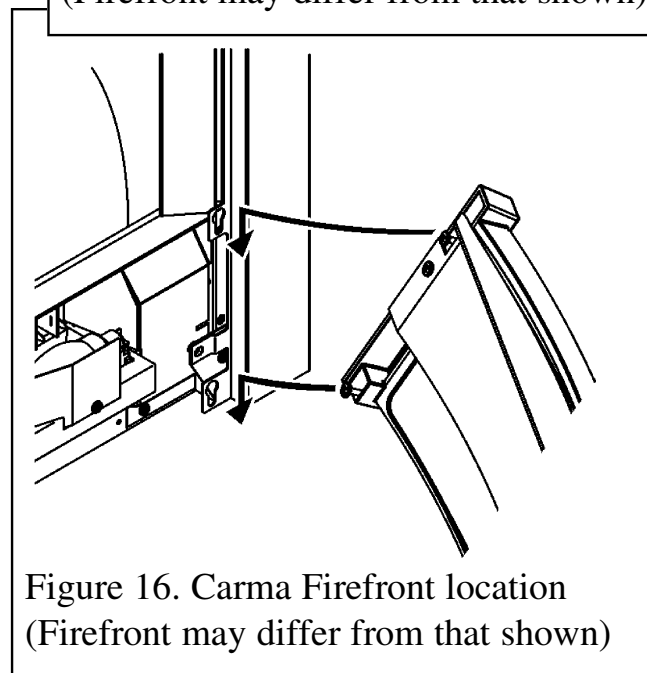

Figure 16. Carma Firefront location
3. The rear of the firefront has four screws that locate into 'keyhole' brackets on the heater. Hook the firefront on to the fascia as in figure 16.